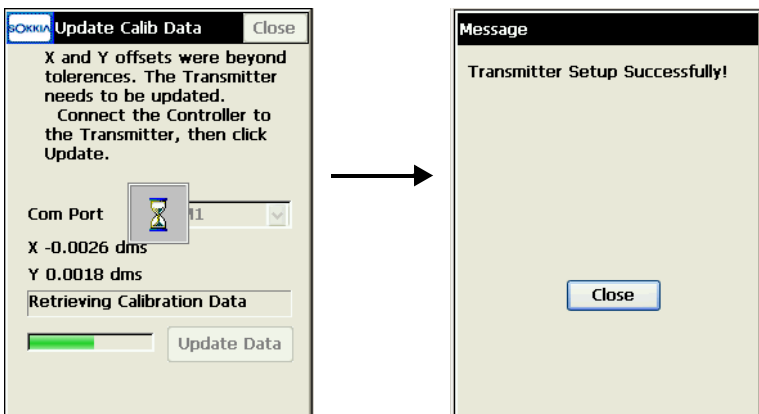

Figure A-21. Uploading Calibration Data
- When finished, tap **Close** on the *Message* screen (Figure A-21).